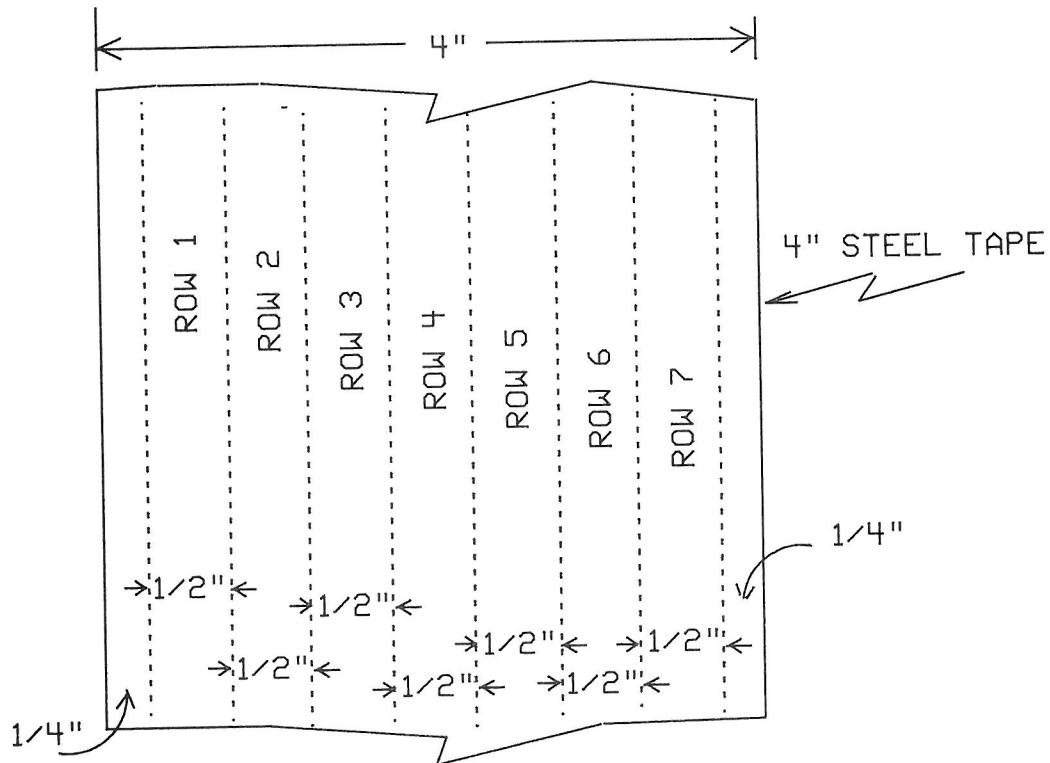

Figure 6. 4" Tape Dimensions
The 4" tape is divided into (7) seven $1/2$ " rows. The first row starts at $1/4$ " from the left side of the tape, the second row starts at $3/4$ " and the third row at $1\ 1/4$ ", etc. See figure 6.